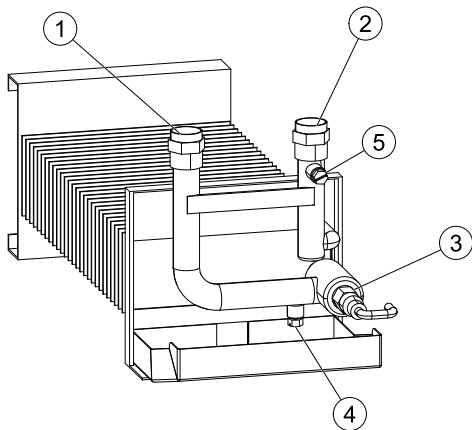

Fig. 5 The water heating battery
3. Hot water inlet and outlet should be connected as illustrated in figure 5. The heater contains a bleed screw (5), the air must be properly vented from the system to ensure proper function. A **venting valve should normally be installed** near the heat exchanger or at the highest point in the system.
4. A drainage screw is connected on the heater figure 5 to empty the system in the event of repair work, a longer operational stop, or when there is a risk of freezing, etc.